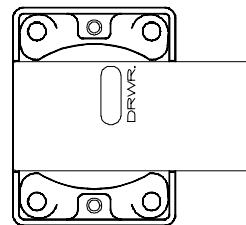

Fig. 3b - Back of door lock with bolt installed.
STEP 5 - Install the bolt so that the "DRWR" side is facing you. The bolt throw should be beyond the bottom of the lock as indicated in Fig. 3b.